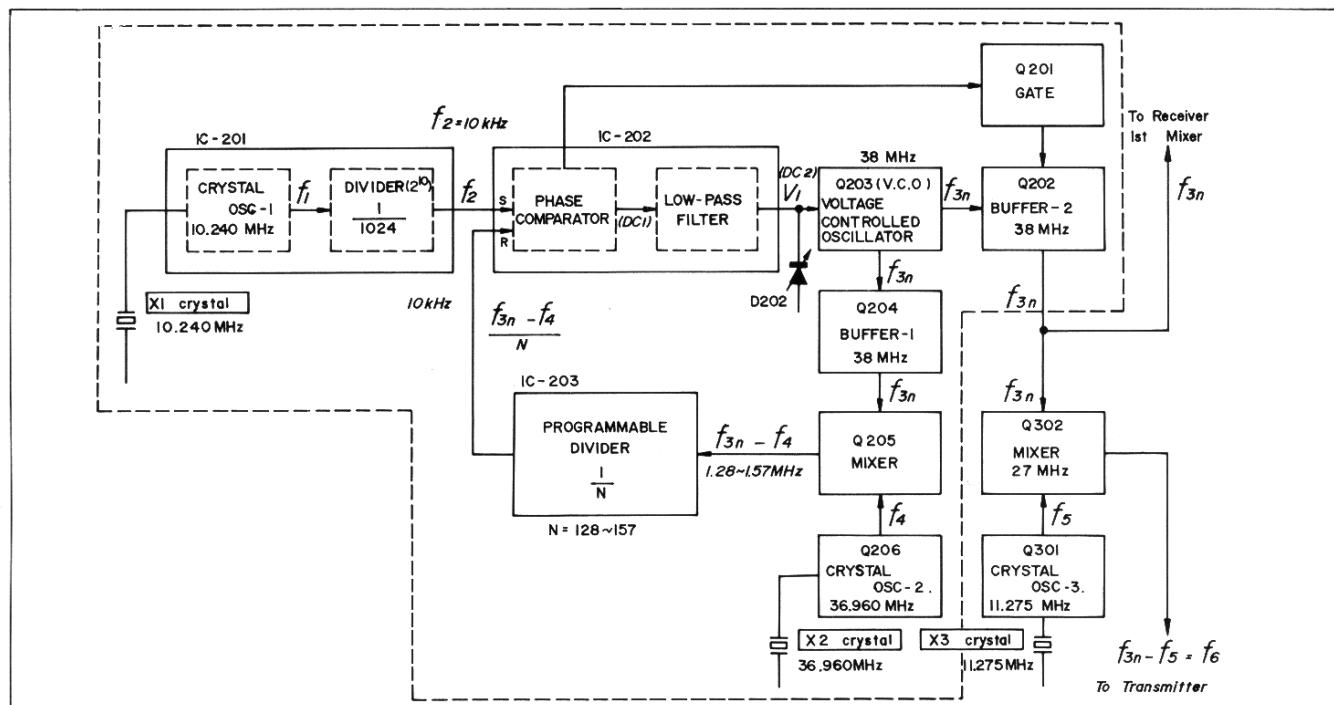

Figure 2 P.L.L. CIRCUIT FREQUENCY SYNTHESIZER
A DESCRIPTION OF PHASE-LOCKED-LOOP (P.L.L.) CIRCUIT (Figure 2)
IC-202, the voltage controlled oscillator (or V.C.O.) Q203, the buffer amplifier Q204, the mixer A205 and the programmable divider IC-203 as shown in Figure 2.
3) Frequency Determining (Refer to Figure 2)